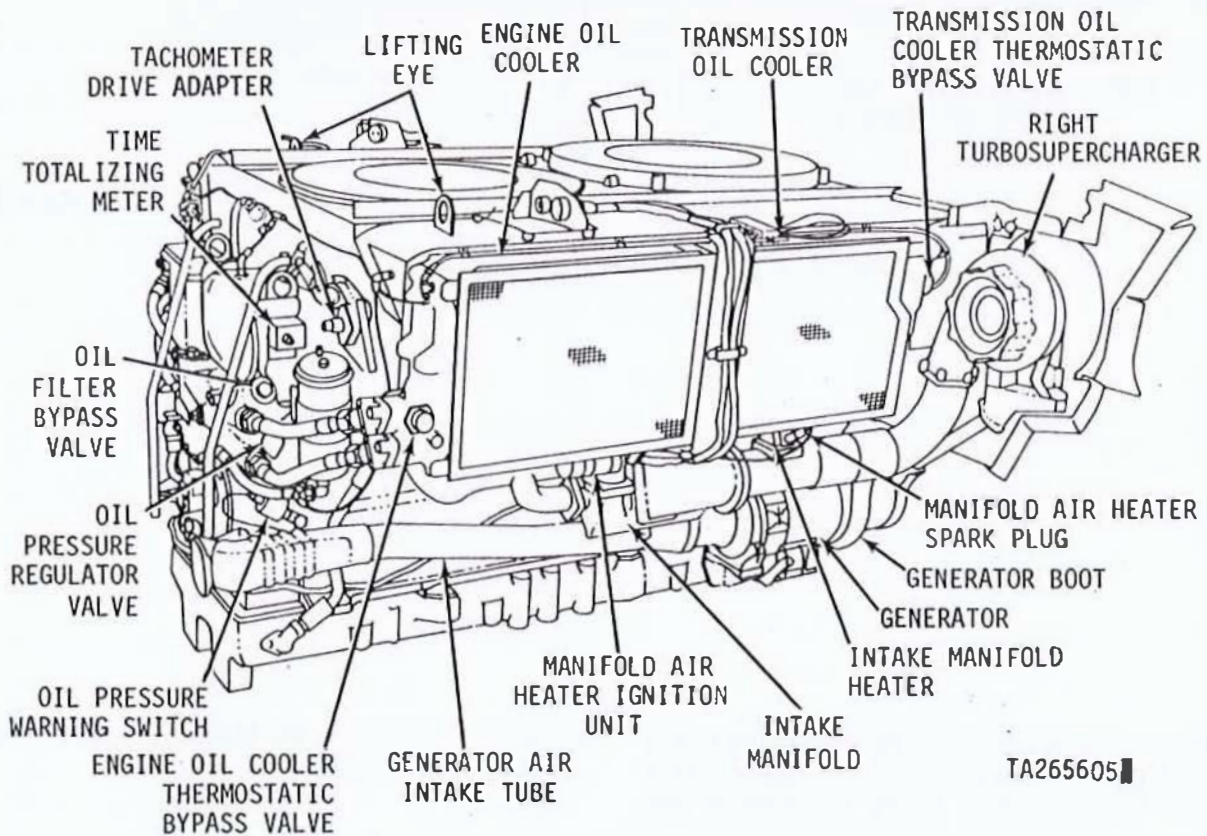

Figure 1-5. AVDS-1790-2D engine assembly - right front view.
b. The Model AVDS-1790-2D engine is equipped with a 28 volt, 300 ampere, air cooled de generator (fig. 1-5).
d. The Models AVDS-1790-2D, AVDS-1790-2DR and AVDS-1790-2DA engines are equipped with a 28 volt, 300 ampere air-cooled direct current generator (figs. 1-5, 1-7.1, and 1-7.8). A blower motor mounted on the generator draws cooling air from the crew compartment through the air intake tube which extends along the crankcase below the intake manifold on the right side of the engine. The generator air exhaust tube elbow is connected to the rear of the engine shroud. Generator outlet air is exhausted through the rear cooling fan vane.